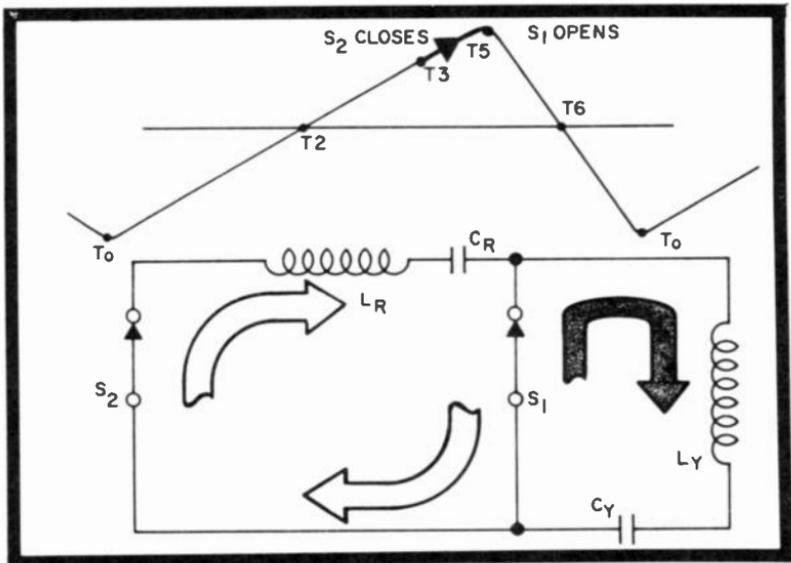

Fig. 9-18. Circuit current ( $T_2$  to  $T_5$ ) during retrace initiation.
**Retrace initiation:** However, at time  $T_3$  (Fig. 9-18) a pulse from the horizontal oscillator causes switch  $S_2$  to close, releasing a previously stored charge on  $C_R$ . The resulting current flows in the circuit as illustrated in Fig. 9-18. Because of the natural resonance of  $L_R$  and  $C_R$ , this resonant current